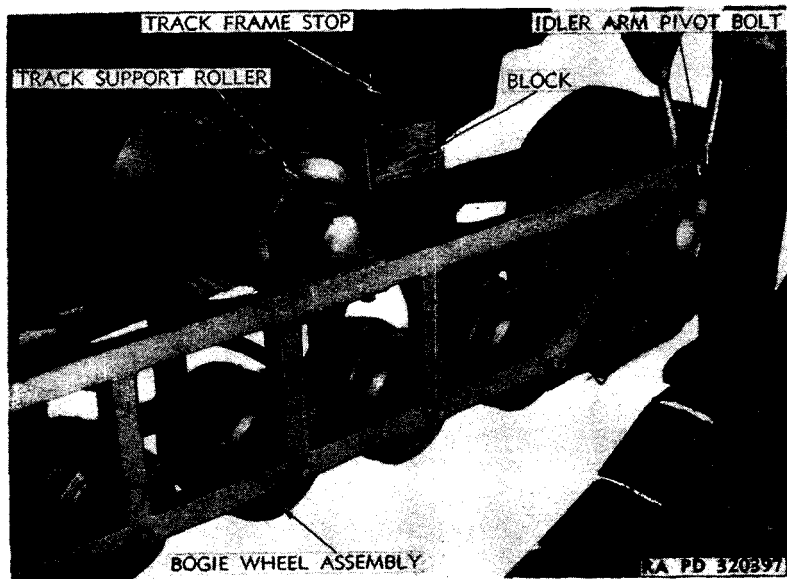
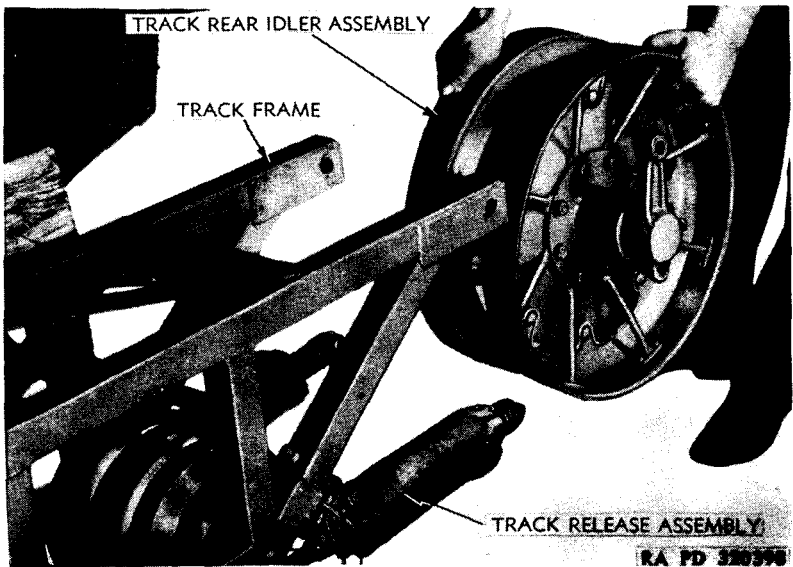
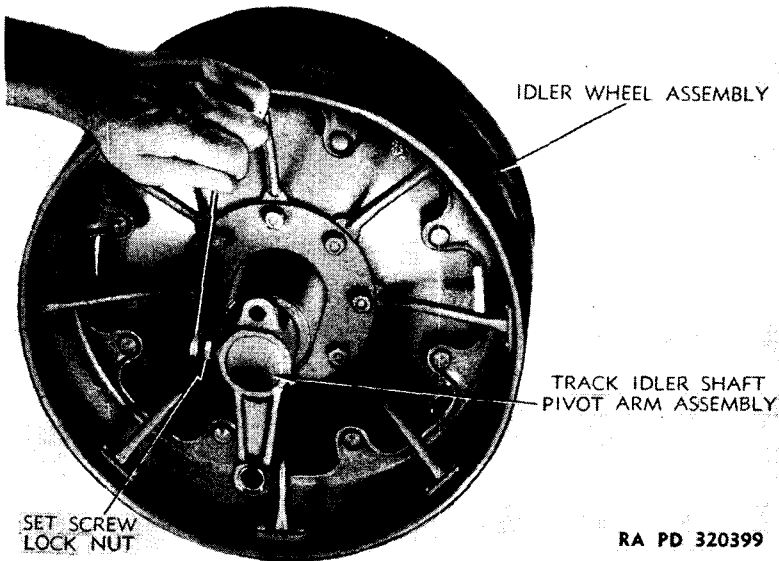

Figure 97—Removing Nut from Idler Pivot Bolt
Figure 98—Removing Track Idler Assembly
Figure 99—Removing Pivot Arm Set Screw
(2) **REMOVE TRACK IDLER ASSEMBLY.** Remove cotter pin and nut from track idler assembly pivot bolts (fig. 97). Remove pivot bolt from each side of track frame. This will also release flat washers and pivot arm bushing spacer. Remove track idler wheel assembly (fig. 98). Loosen track idler pivot arm set screw lock nuts. Remove set screws (fig. 99). Remove pivot arms from shaft.